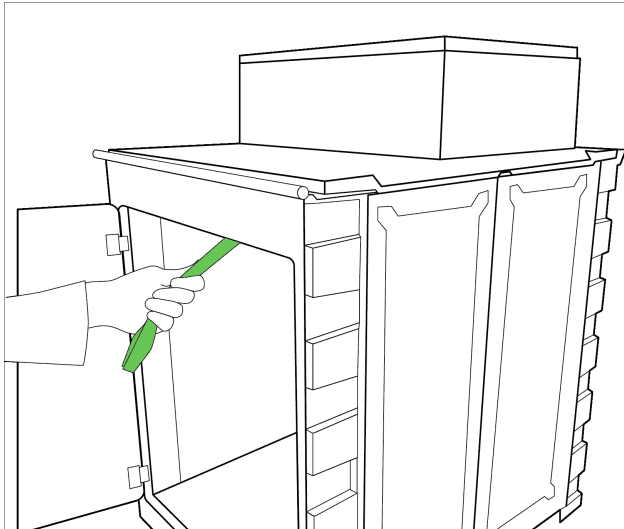

Figure 3-14. Pulling the engagement-place release bar strap to allow the voting station to drop into place
9. Reach inside the door, locate the engagement-place release bar midway on the underside of the lid, and pull it firmly toward you (Figure 3-14). This will allow the ClearCast voting session to drop into place.